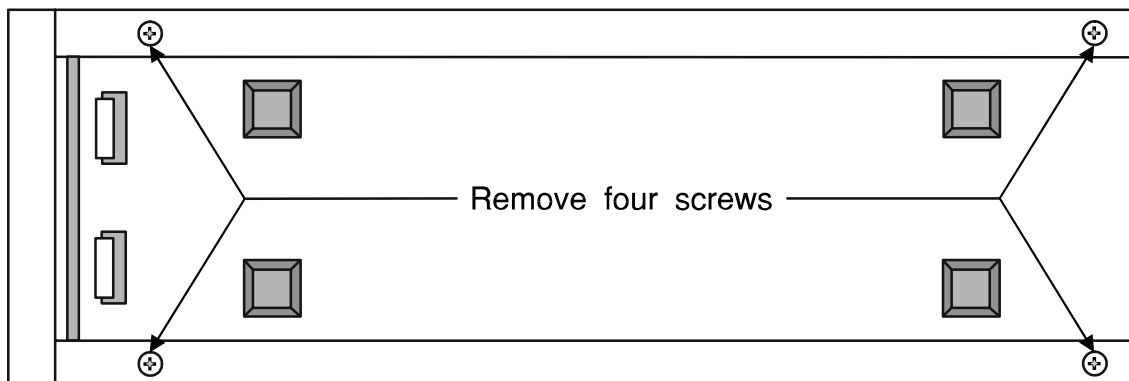

Figure 1
3. Carefully turn the Fortress on its side, and look at the bottom of the UPS. Remove the four screws and washers in the corners (shown in Figure 1 below). **Note:** Some models do not have washers.